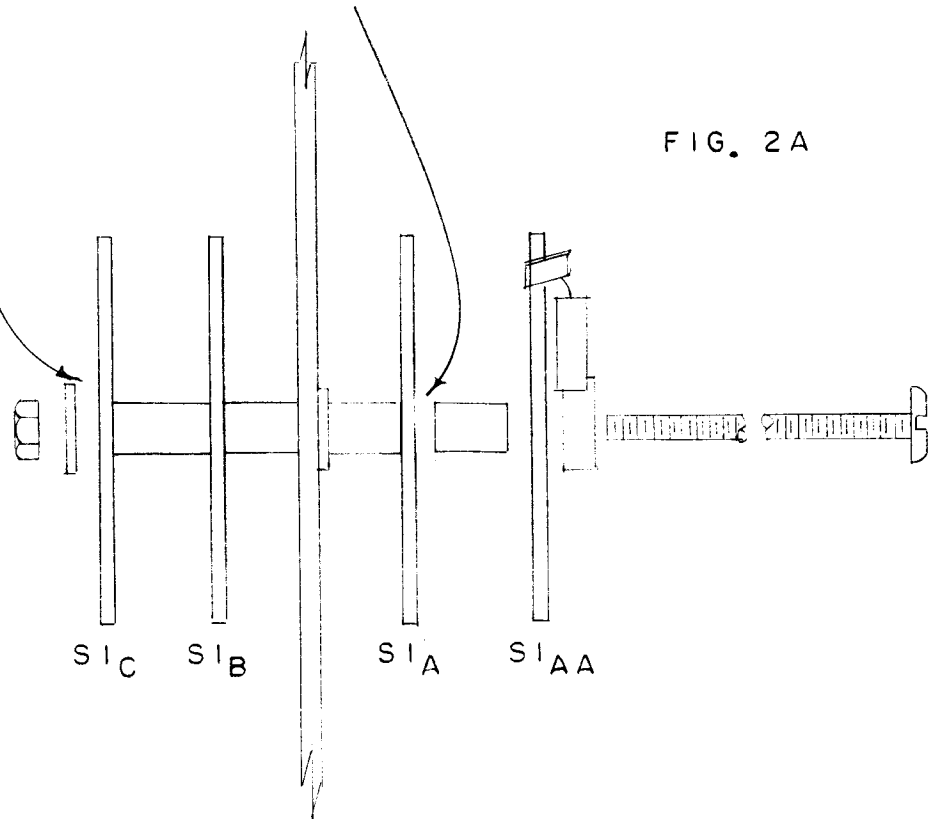

FIG. 2A
6. By means of the hole in the back chassis apron and a 3/16 inch socket wrench remove the loose stud holding S1A, B and C together, being sure to hold one finger on the back nut at the other end of the stud so it will not fall to the bottom of the chassis. While doing this, keep a thumb on the first switch to prevent the spacers between the switches from falling out of place. If this is done correctly the whole job becomes easy. See Fig. 2A